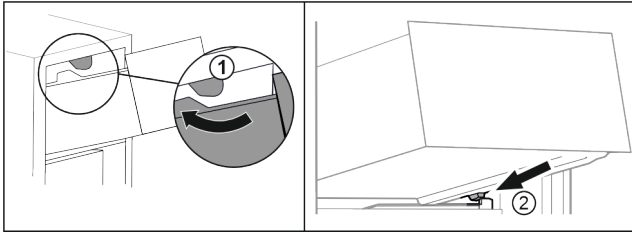

Fig. 74
- ▶ Guide drawer around the upper stoppers. Fig. 74 (1)
- ▶ Place drawer at an angle behind the lower stoppers onto moulded rib. Fig. 74 (2)